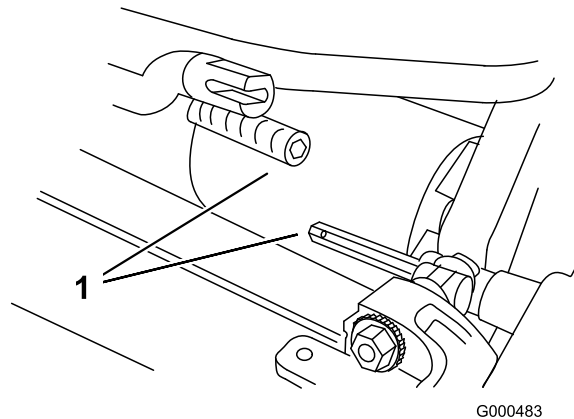

Figure 48
6. Pull cutting unit forward about 2 inch (51 mm) and then to the right to disengage the transmission coupling (Figure 48).